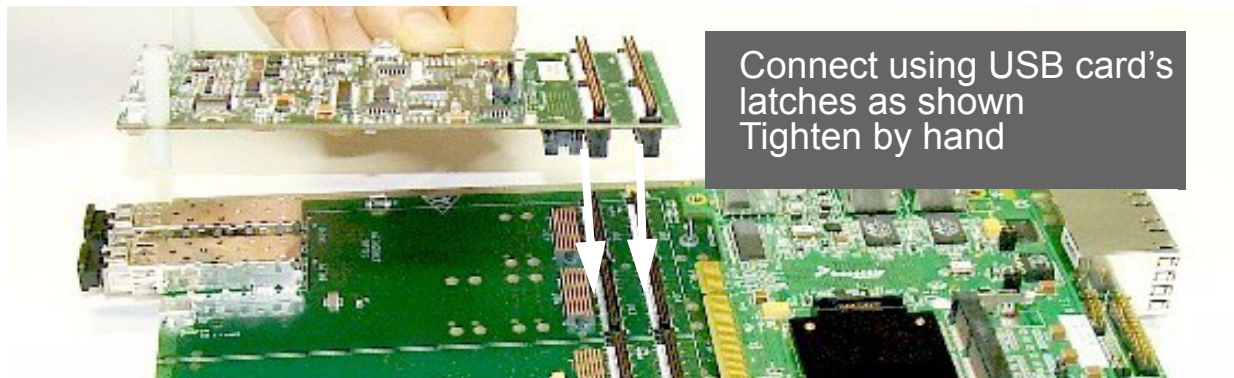
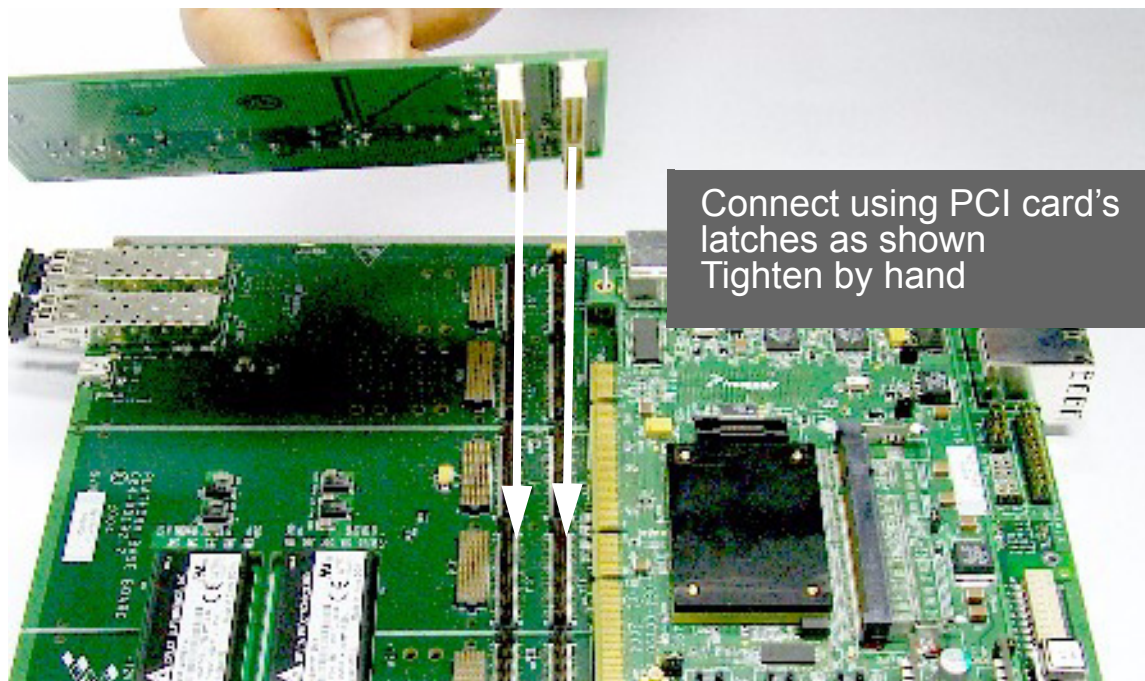
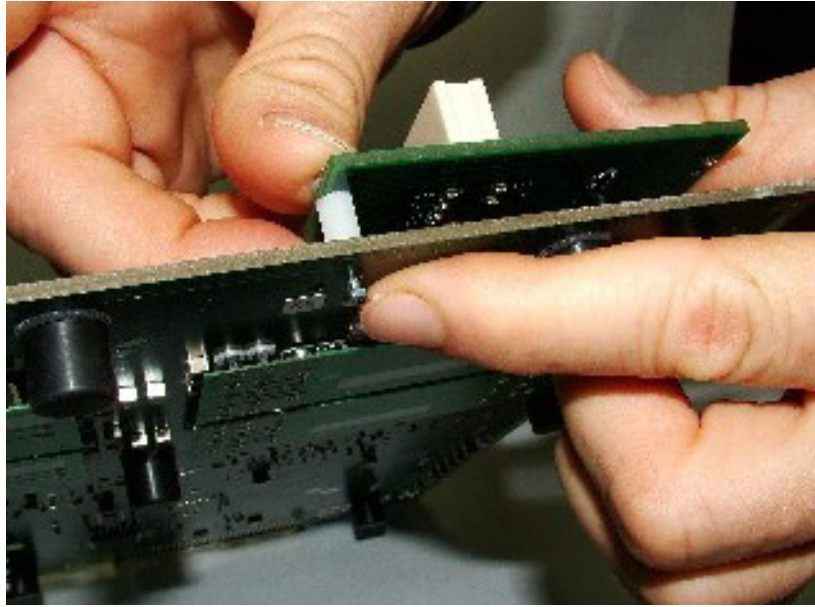

Figure 2-11 Connecting USB card to PIB
Figure 2-12 Connecting PCI card to PIB
Figure 2-13 Inserting spacers between PCI card and PIB
8. If you wish to work with the USB card, or any of the PCI cards, follow the illustrations in Figure 2-11, Figure 2-12, and Figure 2-13 to connect these cards to the PIB.